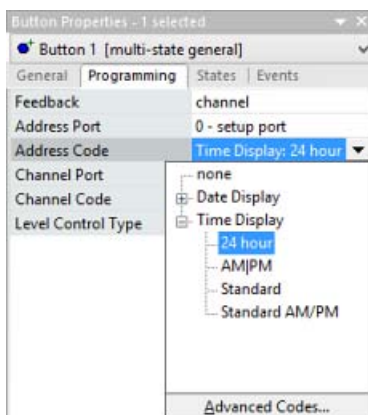

FIG. 409 Address Code: Time Display options
5. Click the plus (+) symbol next to **Time Display** to expose a drop-down menu of time display formats to choose from (FIG. 409):